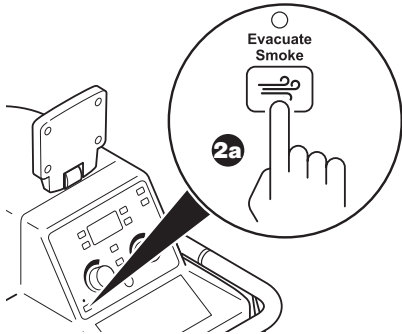

Figure 27 To Activate Smoke Evacuation
- a. Push the EVACUATE SMOKE button once for manual mode, or twice for AUTO mode (Figure 27). See the *Smoke Evacuator Modes of Operation* table for options.